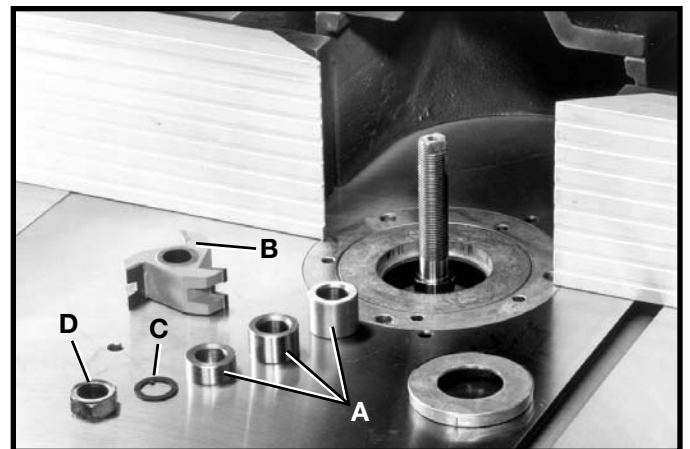

Fig. 35
1. There are three different sized collars (A) Fig. 35, supplied with the shaper. These collars will allow the cutter and/or the 4-1/2" diameter spindle guard to be positioned at various locations on the spindle.
3. After determining if any collars are needed, assemble cutter (B) Fig. 35, keyed washer (C), and spindle nut (D) as shown in Fig. 36, then place one wrench on flats (E) on top of spindle and one wrench on spindle nut (D) and tighten as shown in Fig. 37.